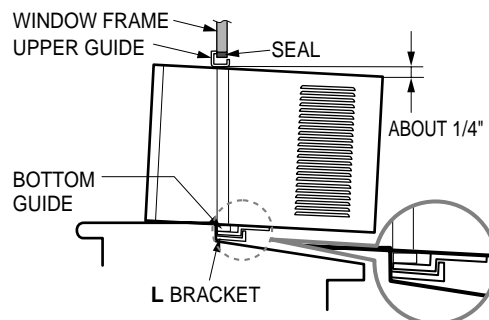

Figure 30
- b. While steadying the air conditioner, carefully bring the window sash down behind the upper guide of the air conditioner, as shown in Figure. 30.